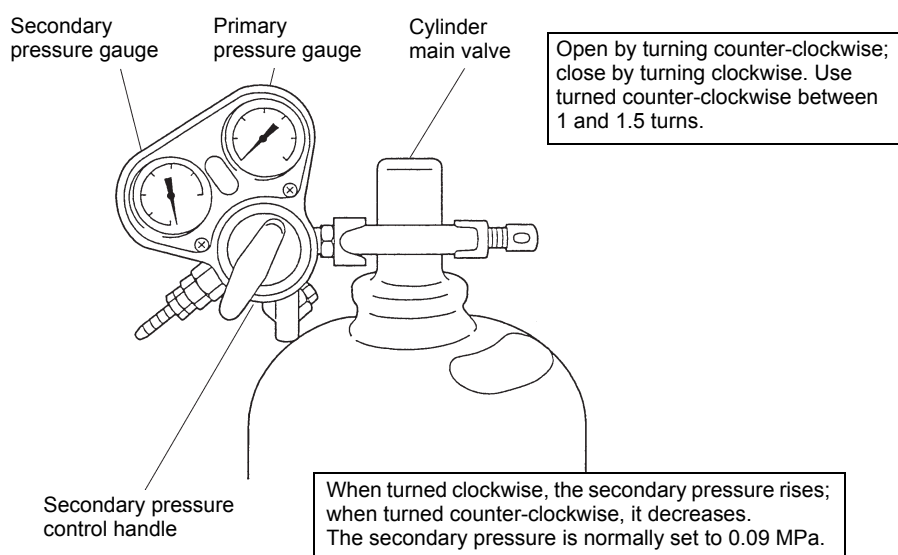
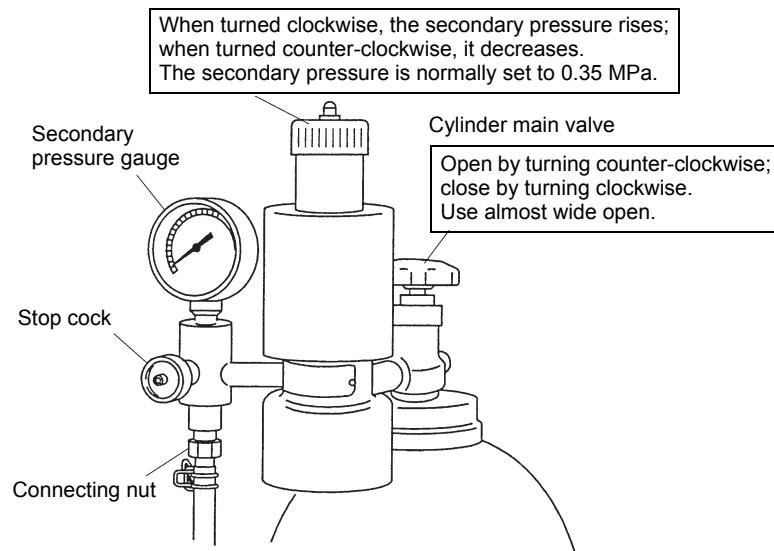

Fig. 8.9 Pressure Regulator for Acetylene
Fig. 8.10 Pressure Regulator for Nitrous Oxide
- Refer to Fig. 8.9 and Fig. 8.10 to install these pressure regulators on the cylinders. If the screw for mounting the regulator on the cylinder appears ready to break, replace the cylinder without attempting to mount the regulator.